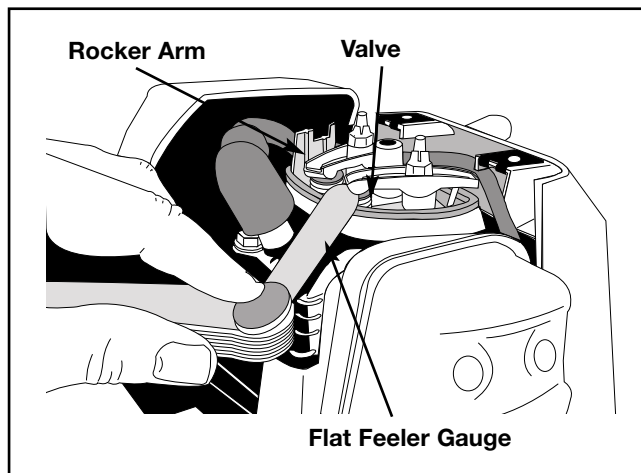

Fig. 51
- Measure the clearance between the valve stems and rocker arms, using a flat feeler gauge (Fig. 51).